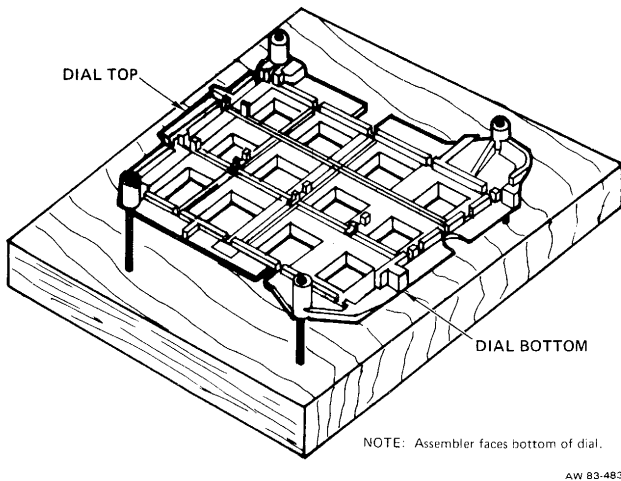

Figure 6: Holding Fixture
- (c) Place the dial face down in a holding fixture. (See Figure 6.)
- (a) Place the cover plate face down on a holding fixture. (See Figure 6.)